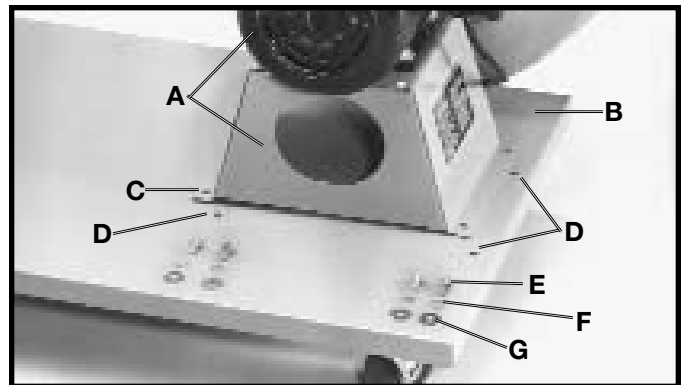

Fig. 6
1. Set blower and motor assembly (A) Fig. 6, on base (B).
2. Align mounting holes (C) Fig. 6, at the bottom of blower and motor assembly (A) with four threaded holes in the base, three of which are shown at (D). Place a 5/16" lockwasher (F) Fig. 6, onto a 5/16-18x5/8" hex head screw (E), then a 5/16" flat washer (G) onto the hex head screw. Insert the hex head screw through the hole in the motor assembly, thread the screw into the hole in the base, and tighten securely. Repeat this process for the three remaining holes.